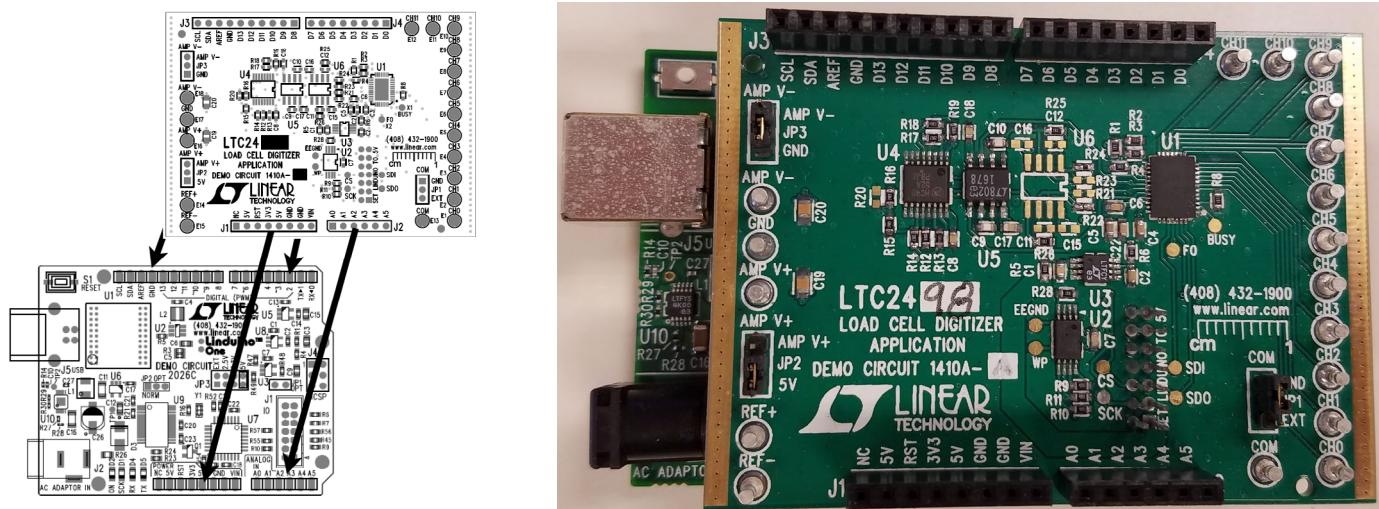

Figure 2. DC1410 Connected to the Linduino
1. Insert the DC1410A onto the Linduino (DC2026). Figure 2 shows the correct orientation.